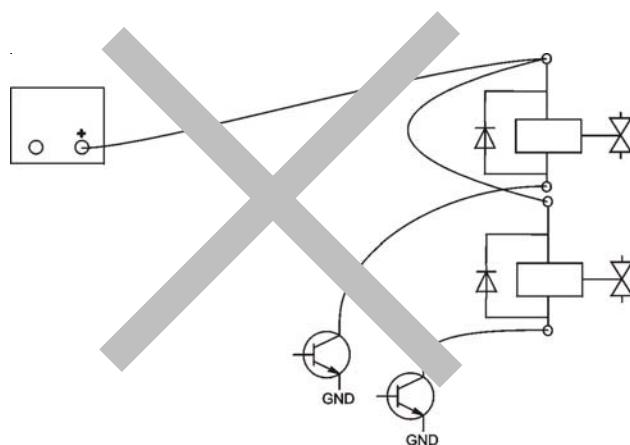

Fig. 5-26: "Serial" Wiring
- AVOID** to „serial“ wire the loads‘ power supplies at which the power supply line starts at the source and successively connects all loads (fig. 5-26):